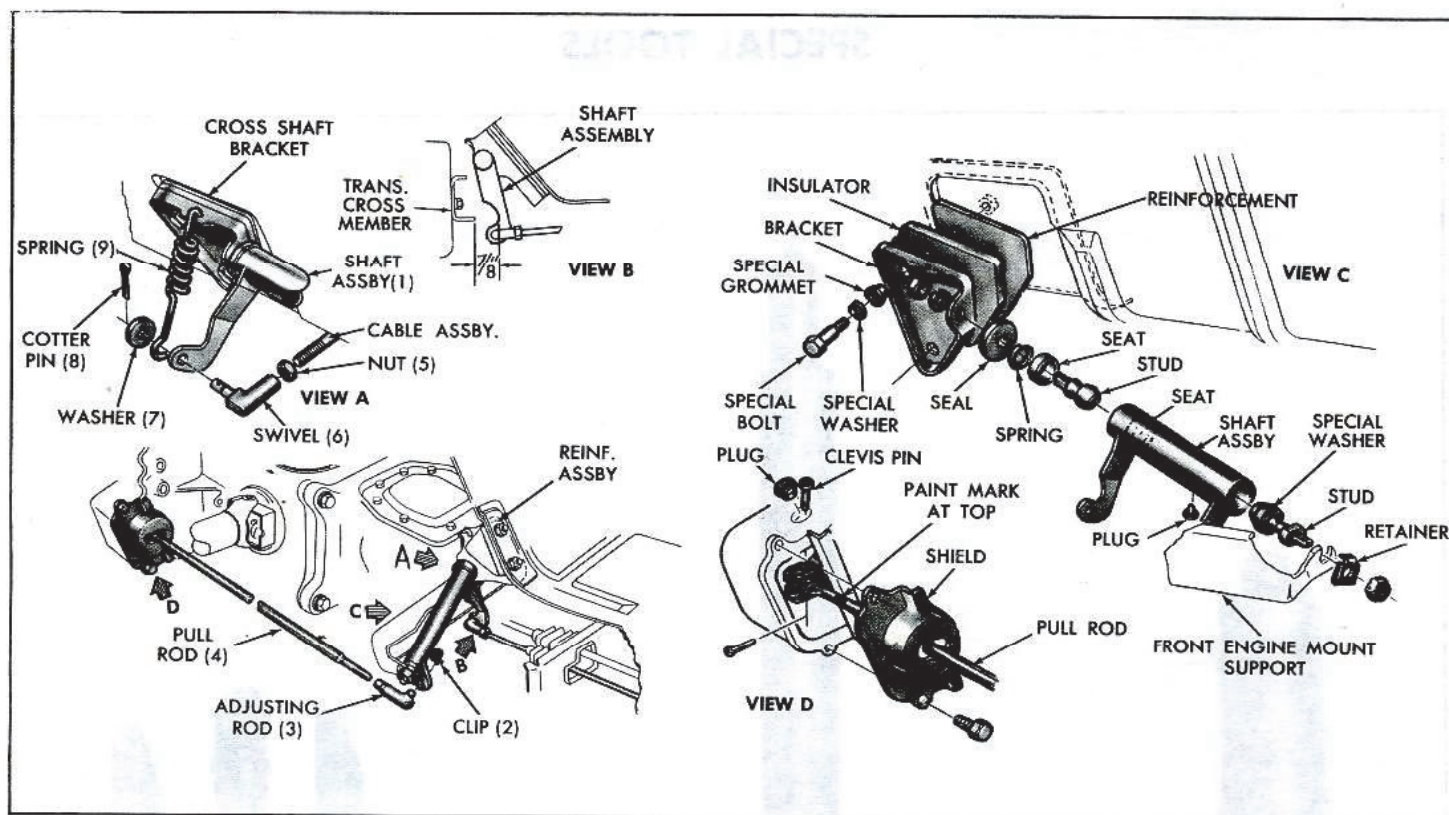

Fig. 7-9—Clutch Linkage Exploded
The clutch fork pull rod assembly is a two piece design and provides for clutch lash at the swivel end which attaches to the cross shaft (fig. 7-9).
### CLUTCH LINKAGE ADJUSTMENT (Fig. 7-9)
##### Removal (Fig. 7-9)
**Installation (Fig. 7-9)**
**CLUTCH LEVER CONTROL CROSS SHAFT AND BALL STUDS (Fig. 7-9)****Removal**
1. Lubricate ball stud and seats with chassis lubricant and reverse Removal procedure for assembly, referring to Figure 7-9 for order of assembly.